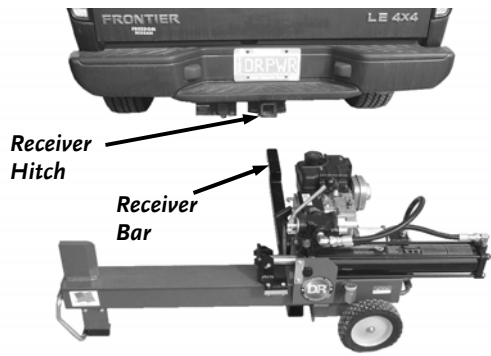

Figure 40
- Position the Wood Splitter behind the vehicle with the engine of your Wood Splitter on the right-hand side (**Figure 40**).